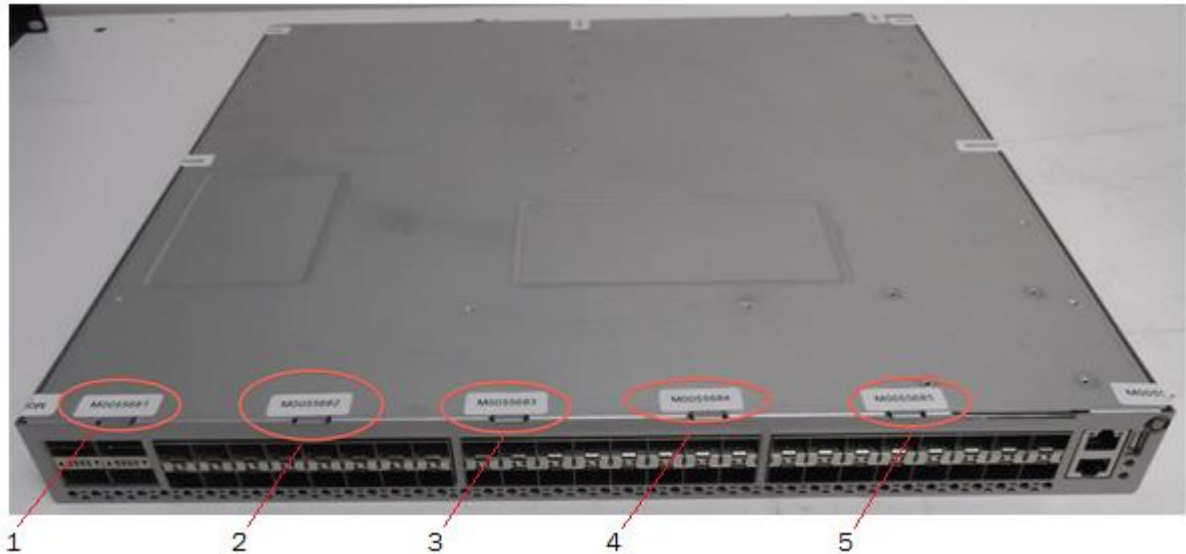

Figure 1. VDX 6740 bottom port-side seal locations
1. **Front:** Apply one (1) seal over the screws along the bottom port-side surface of the chassis. Refer to **Figure 1** for details on how to position each seal.